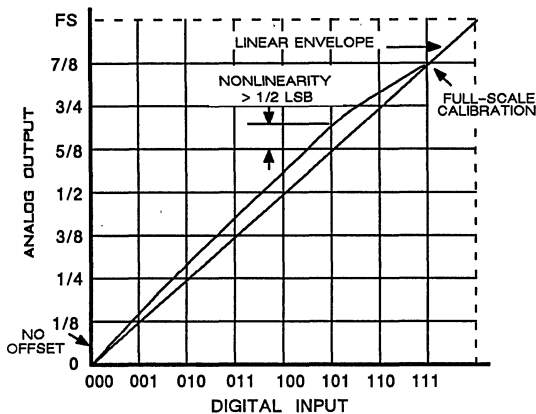

Figure 7. Non-symmetrical Integral Linearity Errors
**Relative Accuracy.** This term is also known as integral non-linearity, integral linearity error, or endpoint linearity. Relative accuracy is the maximum deviation from a straight line drawn through zero and full-scale at any point in the transfer function. It is measured after adjusting for zero and full-scale errors, and can be expressed as a percentage of full-scale range or (sub)multiples of 1 LSB. Figure 7 illustrates non-symmetrical integral linearity errors.